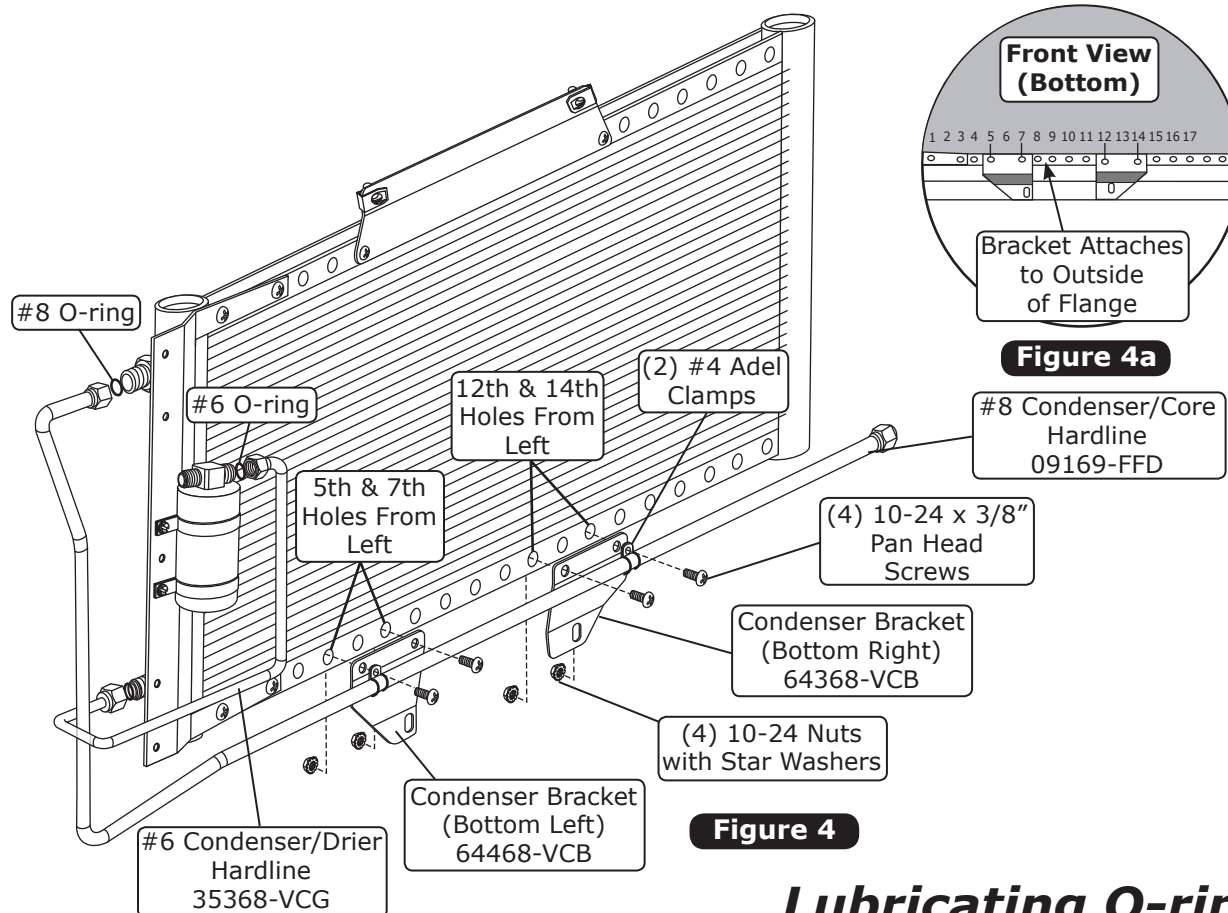
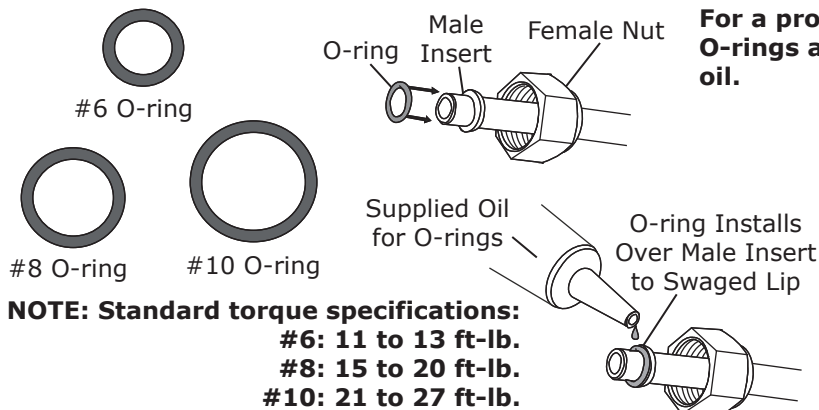

Figure 4
Figure 5
1. Lubricate (2) #6 O-rings, and install the #6 condenser/drier hardline as shown in Figures 4 & 5, below. Tighten fittings as shown in Figure 5, below.
2. Lubricate a #8 O-ring, and install the #8 condenser/core hardline as shown in Figures 4 & 5, below. Tighten fittings as shown in Figure 5, below. **NOTE: Omit this step for passenger-side-mounted compressors.**
3. Using (2) #4 Adel clamps, (4) 10-24 x 3/8" pan head screws and (4) 10-24 nuts with star washers, install the (2) bottom condenser mounting brackets onto the condenser as shown in Figures 4 & 4a, below. **NOTE: The brackets mount to the outside of the flange. The left bracket mounts through the 5th and 7th holes from the left side of the condenser. The right bracket mounts through the 12th and 14th holes from the left side of the condenser. Adel clamps will not be used with passenger-side-mounted compressors.**
2. Lubricate a #8 O-ring, and install the #8 condenser/fenderwell hardline as shown in Figure 5, Page 7, and Figure 10, below. Tighten fittings as shown in Figure 5, Page 7. **NOTE: Omit this step for passenger-side-mounted compressors.**
1. Lubricate a #6 O-ring, and install the #6 drier/fenderwell hardline as shown in Figure 5, Page 7, and Figure 11, below. Tighten fittings as shown in Figure 5, Page 7.